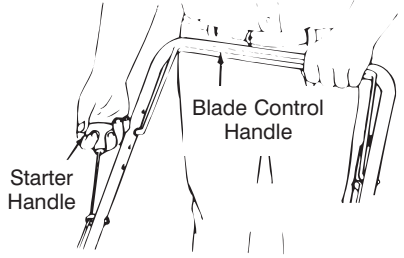

Figure 8
- Standing behind the unit, depress the blade control handle and hold it against the upper handle as shown in Figure 8.